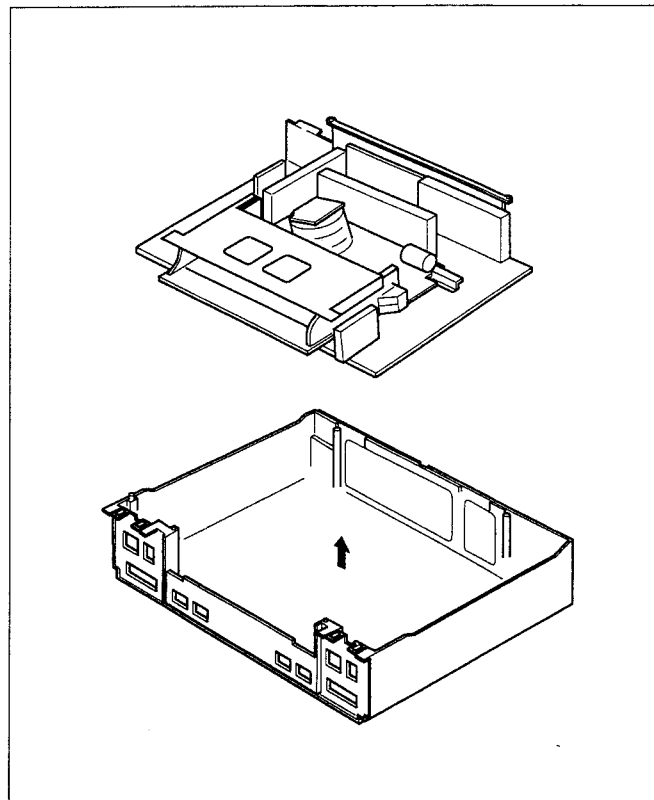

Fig. 1-4-2
- (7) Remove the Mechanism assembly (including Cassette housing) and MAIN board assembly out of the chassis as shown in Fig.1-4-2.
- (8) Remove the JACK board assembly and DISPLAY board assembly (including REC SAFETY board assembly and CASS. SW board assembly). (See DISASSEMBLY/ASSEMBLY METHOD.)
- (9) Remove the DIGITAL board assembly. (See DISASSEMBLY/ASSEMBLY METHOD.)